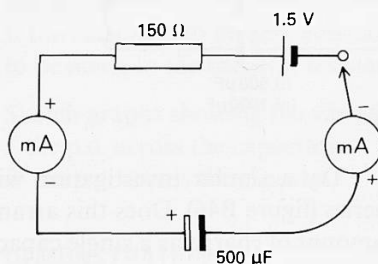

Figure B43
- B14b** This circuit adds a second meter to the circuit in order to investigate the currents flowing on both sides of the capacitor (figure B43).